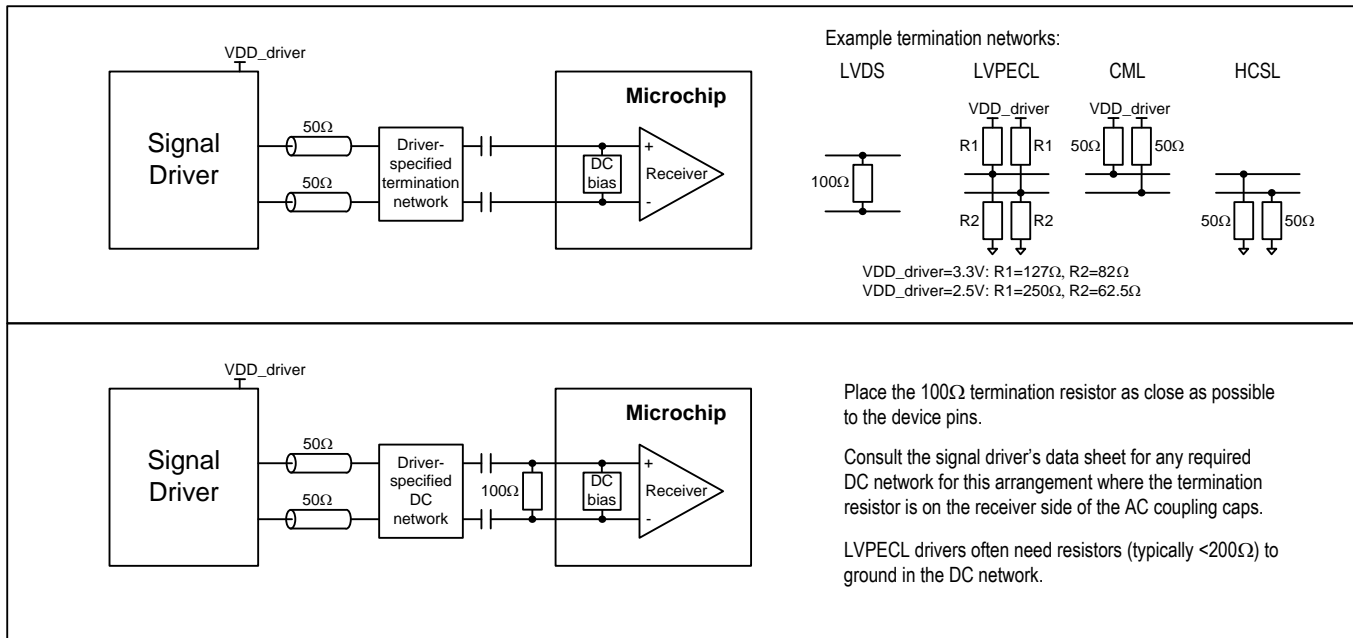

Figure 15 - Example External Components for Differential Input Signals
- Note 3: Differential signals.** The differential inputs can easily be interfaced to neighboring ICs driving LVDS, LVPECL, CML, HCSL, HSTL or other differential signal formats using a few external passive components. In general, Microchip recommends terminating the signal with the termination/load recommended in the neighboring component's data sheet and then AC-coupling the signal into the ICxP/ICxN pins. See Figure 15 for details. To connect a differential signal to IC3, AC-couple one side of the signal to IC3P and AC-couple the other side to VSS. For DC-coupling, treat the input as 1.8V CML.